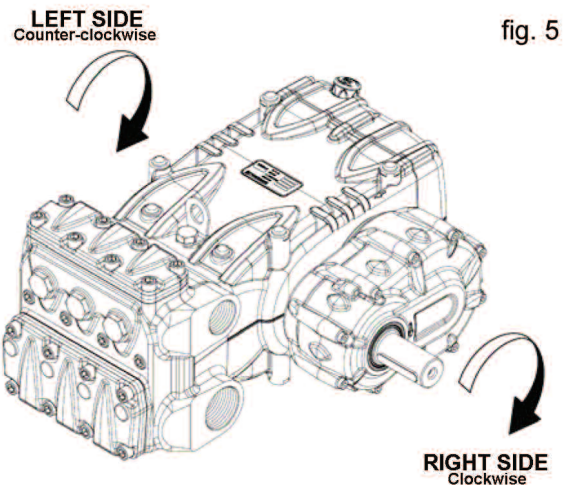

fig. 5
- as shown in fig. 5 for versions with a reducer unit
NOTE: Figures 5 and 5a show right versions.